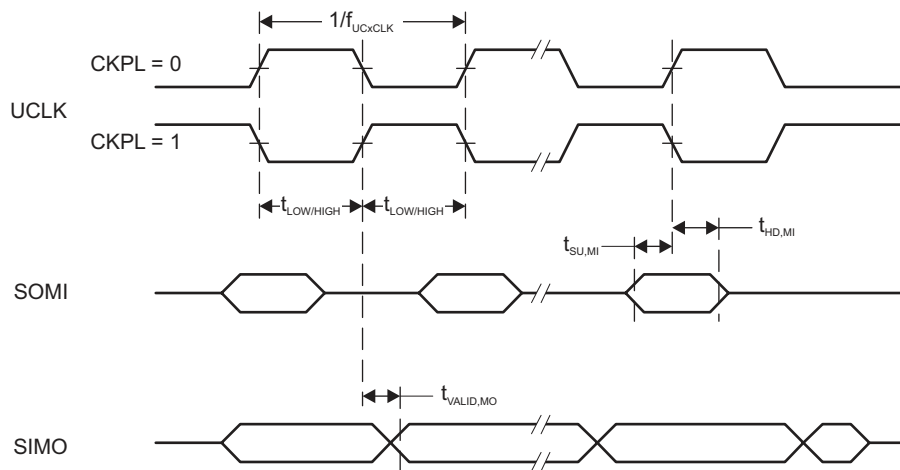
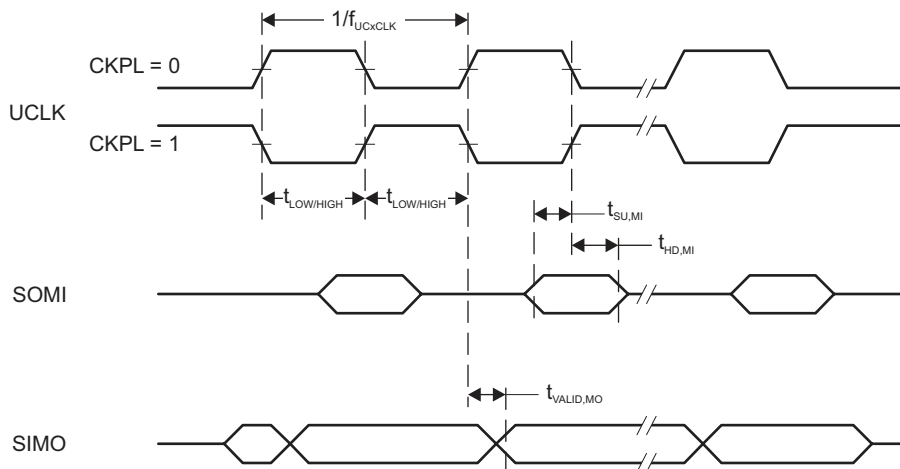

Figure 5-23. SPI Master Mode, CKPH = 0
Figure 5-24. SPI Master Mode, CKPH = 1
over recommended ranges of supply voltage and operating free-air temperature (unless otherwise noted)⁽¹⁾ (see Figure 5-23 and Figure 5-24)
- (2) Specifies the time to drive the next valid data to the SIMO output after the output changing UCLK clock edge. See the timing diagrams in Figure 5-23 and Figure 5-24.
- (3) Specifies how long data on the SIMO output is valid after the output changing UCLK clock edge. Negative values indicate that the data on the SIMO output can become invalid before the output changing clock edge observed on UCLK. See the timing diagrams in Figure 5-23 and Figure 5-24.